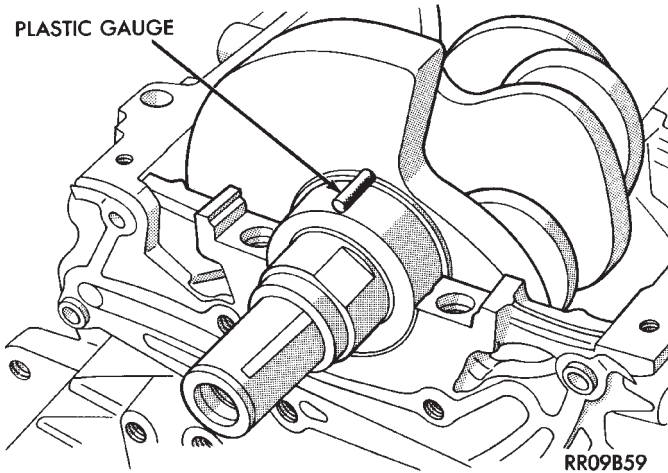

Fig. 18 Measure Oil Clearance with Plastigage
- (1) Remove oil from journal and bearing shell.
- (2) Install crankshaft.
- (3) Cut plastigage to same length as width of the bearing and place it in parallel with the journal axis (Fig. 18).
- (4) Install the main bearing cap carefully and tighten the bolts to specified torque.